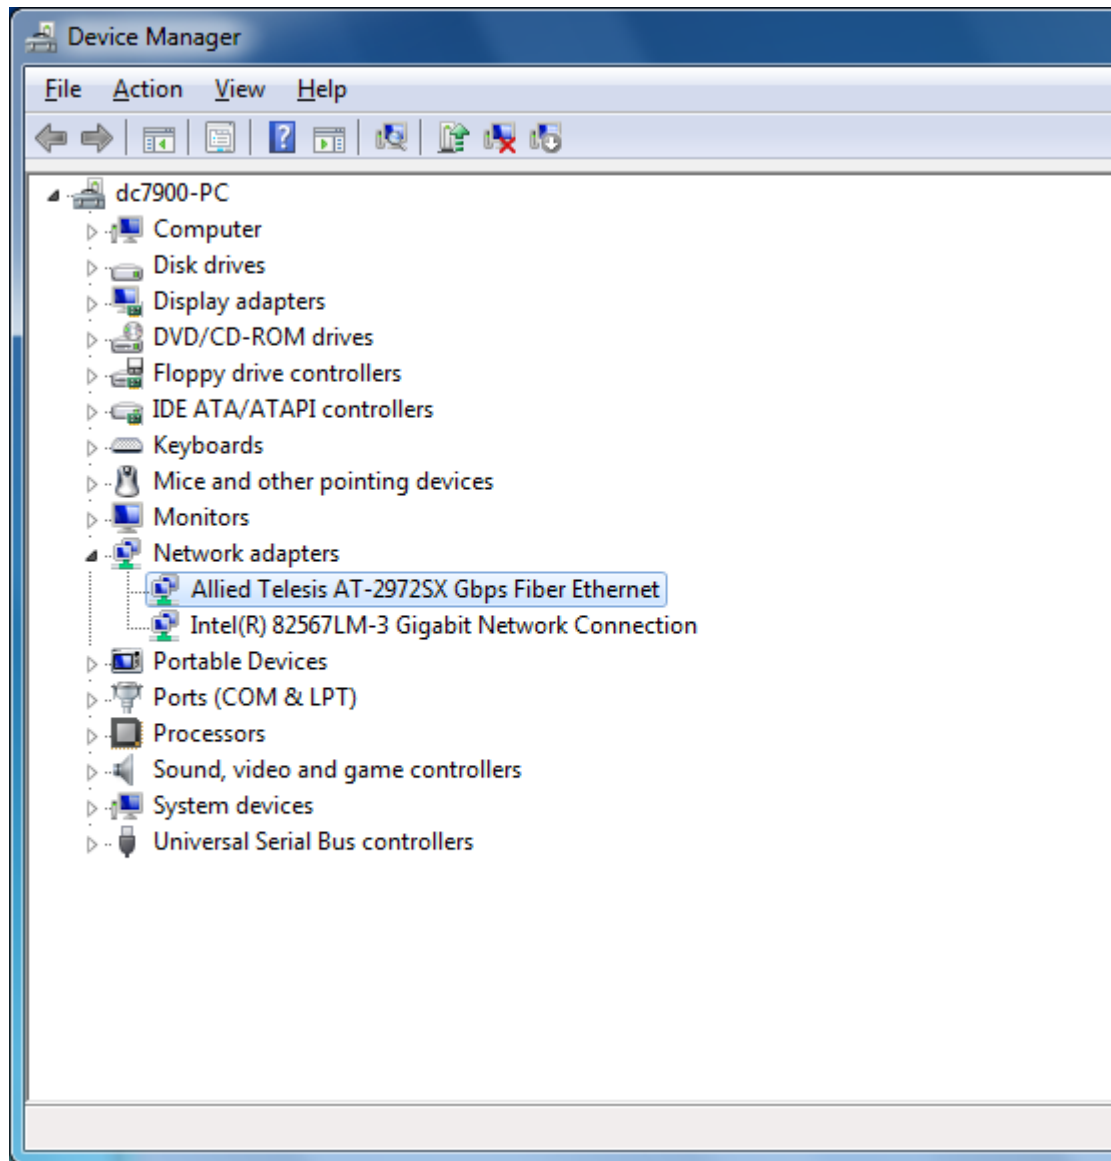

Figure 16. Device Manager Window
4. From the Computer Management Window, select Device Manager in the left panel. The Device Manager window is displayed. See Figure 16 on page 47.
The Device Manager window for an AT-2972SX adapter is shown in Figure 16.
The Device Manager Window is shown in Figure 16 on page 47.